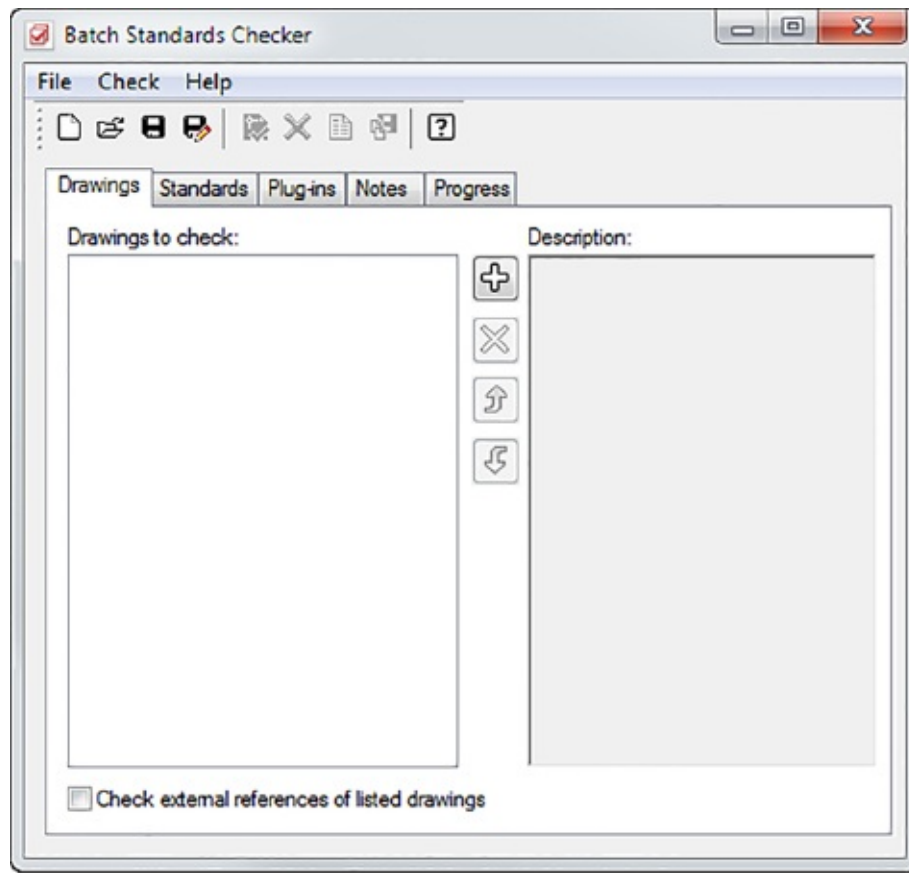

FIGURE 25.33 The Batch Standards Checker dialog box
1. From the Windows Desktop, choose Start > All Programs > Autodesk > AutoCAD 2018 > Batch Standards Checker to open the Batch Standards Checker dialog box (see Figure 25.33).